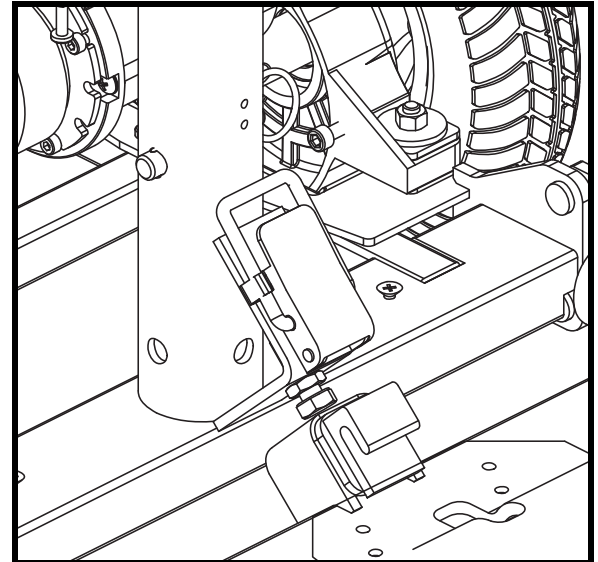

Figure 12. Toggle Latch Open
7. Rotate the toggle latch buckle over the top of the toggle latch until it snaps into its retainer. See **figure 12**.